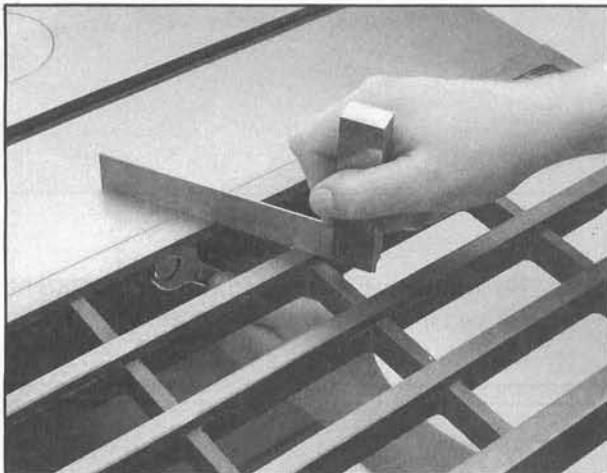

Figure 18.
3. Raise or lower the rear of the extension wing until the middle of the wing is flush with the table top and tighten the middle bolt. **Figure 18.**